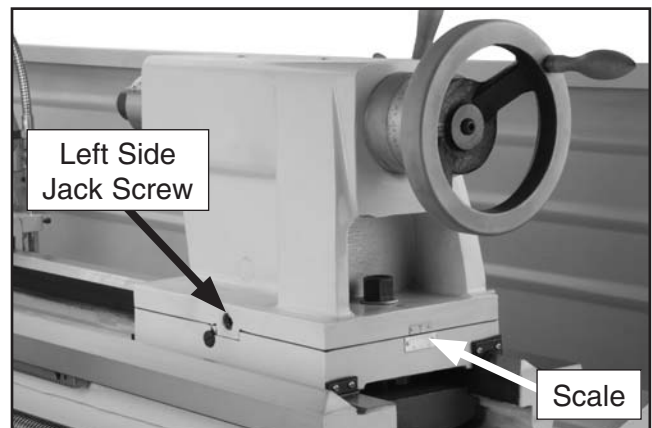

Figure 31. Tailstock off-set adjustments.
1. Lock the tailstock in position, and loosen the jack screw located just above the adjustment screw (**Figures 31 and 32**).